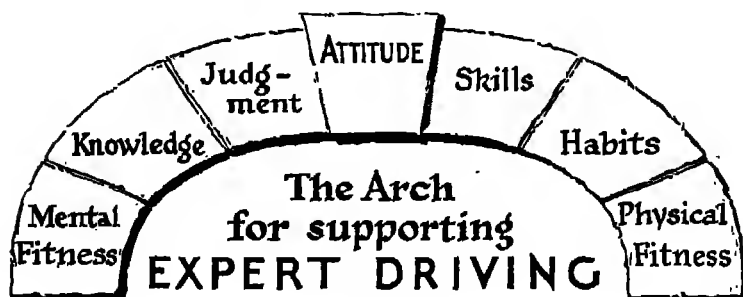

FIG. 26.
5. Make a list of what you would consider to be sportsmanlike driving attitudes. Make similar lists for the other blocks of the Arch for Supporting Expert Driving, as shown in Figure 26.